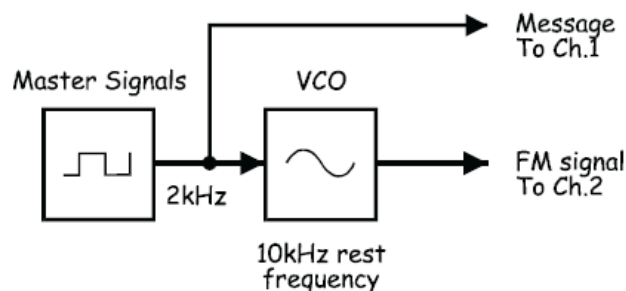
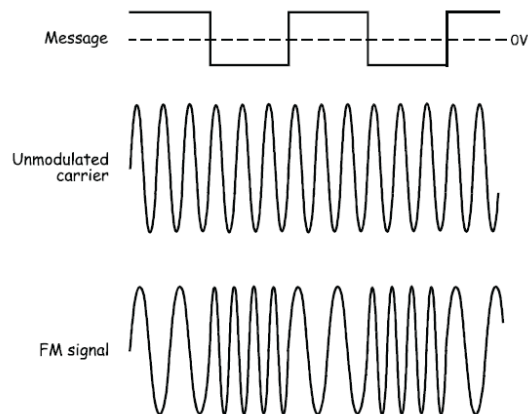

Figure 7.1 Frequency modulating a square wave (set-up)
Figure 7.2 Frequency modulating a square wave
- Modify the set up as shown in Figure 7.1 below and adjust the setting if necessary to obtain waveforms as in Figure 7.2.